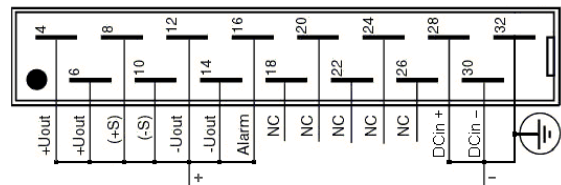
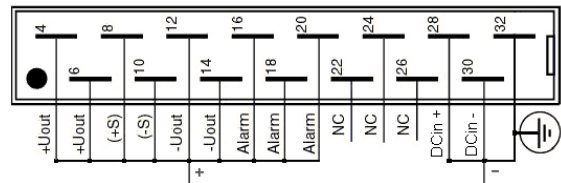

Figure 11. Output to case isolation voltage test.
Figure 12. Output to case with relay alarm isolation voltage test.
2. Check *Figure 11* or *Figure 12* to include the alarm relay option. The relay outputs are insulated from output/input/case.
6. Raise the voltage of the isolation tester from 0 to 2500 Va.c. The voltage should not be applied for more than one (1) minute or the Y-capacitors might be damaged.